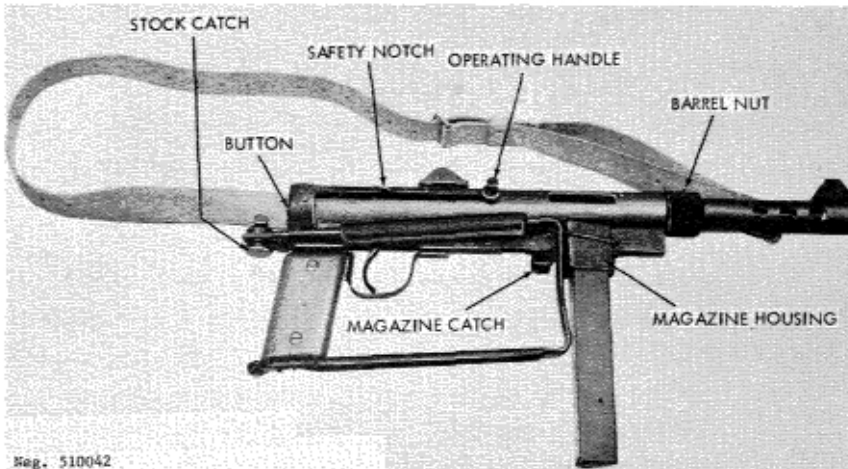

Figure 43. Egyptian Port Said submachinegun.
b. In addition to its use by the Swedish Army, the M45 is sold commercially as the "Carl Gustaf" or "Swedish K" submachinegun. Copies are manufactured in Egypt as the "Port Said" submachinegun (fig 43).
d. Pull the operating handle (fig 43) outward (if necessary); pull it to the rear, and then ease it forward until the bolt is caught by the sear. **CAUTION:** The gun is now ready to fire. Using a normal sight picture, aim and press the trigger. The gun will fire until the trigger is released or the magazine is empty. The bolt will remain forward after the last round has fired.
f. Fold the stock by pressing the stock catch (fig 43) to the left and then forcibly press the stock to the right until it swings forward.
b. Press in the button in the middle of the receiver cap (fig 43) and while holding the button inward, rotate the cap counterclockwise until it releases; ease the cap rearward and remove. Pull the driving spring out of the receiver.